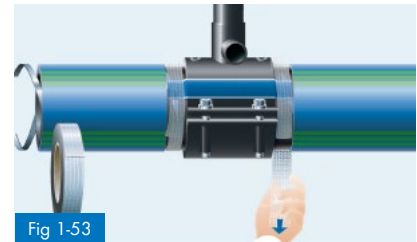

Fig 1-53
- Masking of the electrical connections – in the area of the annular gap between the pipe and the electrofusion fitting – with duct tape (Fig. 1-53)